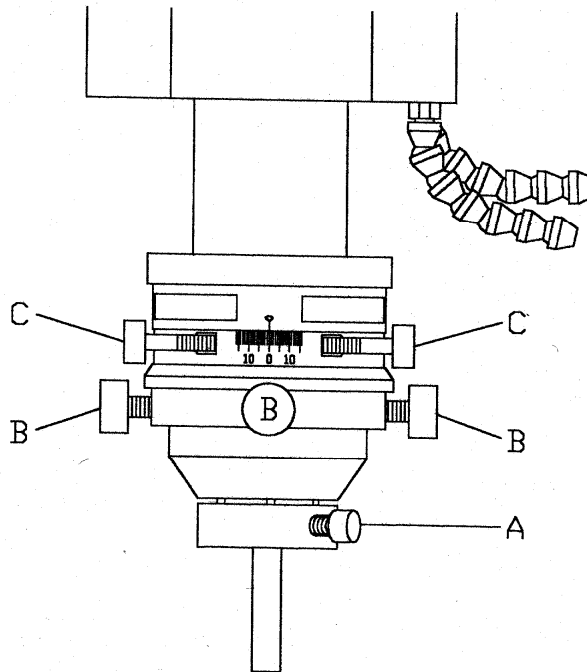
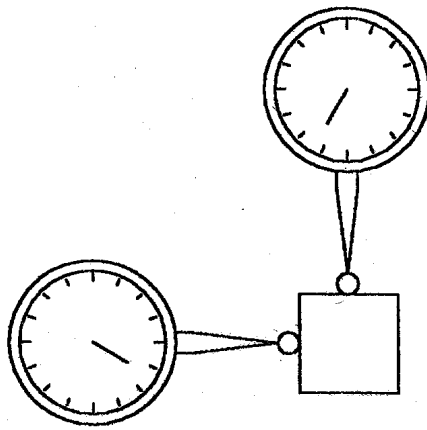

FIG. 6-1A
FIG. 6-1C
2. FIX 2 SETS OF DIAL GAUGE ON WORK TABLE (FIG. 6-1C), CHECK IF THERE IS ANY DEVIATION BY MOVING THE Z AXIS UP-DOWN ARROWKEY OF MANUAL CONTROL PANEL. CHECK THE VERTICALITY BETWEEN ELECTRODE AND WORK TABLE AND ADJUST BY THE 4 SCREWS (FIG.6-1A).
4. WHEN YOU ADJUST THE VERTICAL ADJUSTMENT SCREWS (FIG.6-1A-B) OR THE ANGULAR ADJUSTMENT SCREWS (FIG.6-1A) YOU MUST LOOSEN AND TIGHTEN IN OPOSITE PAIRS TO ACHIVE A SECURE ELECTRODE POSITION.